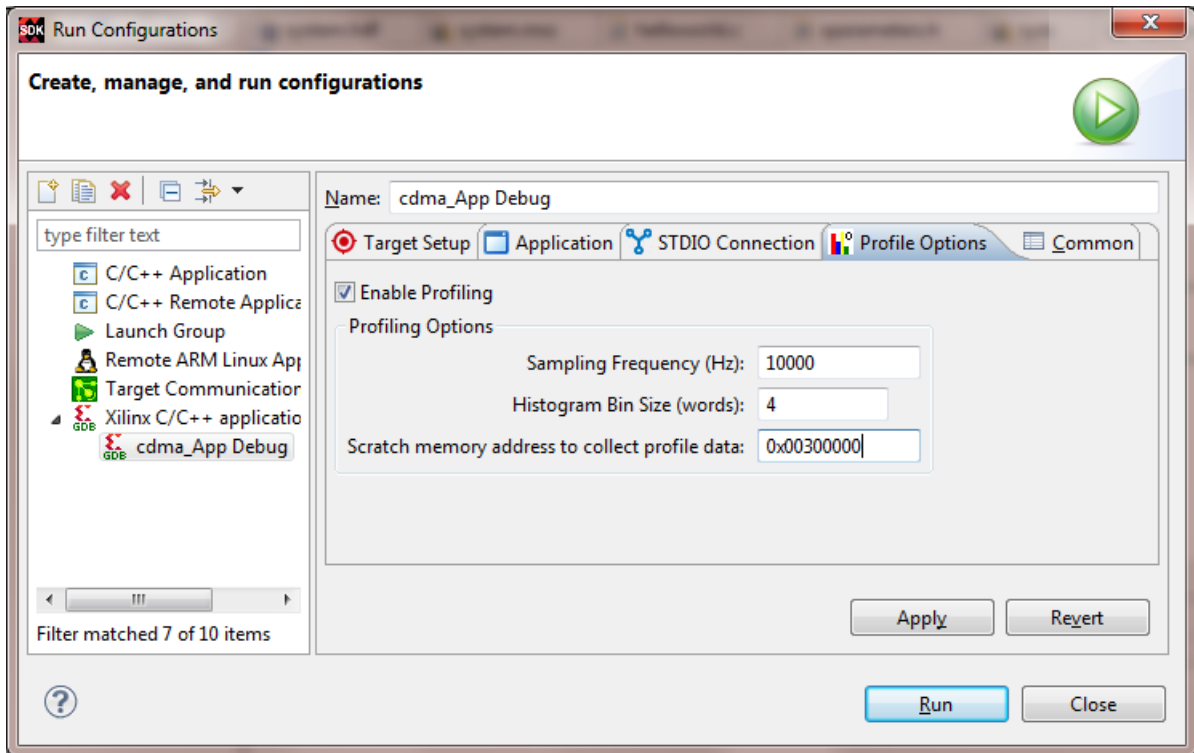

Figure 7-7: Enabling Profiling
3. Click **Program** to download the bitstream and program the programmable logic (PL) Fabric.
6. Open the **Profile Options** tab and set the following parameters, as shown in Figure 7-7, page 87: